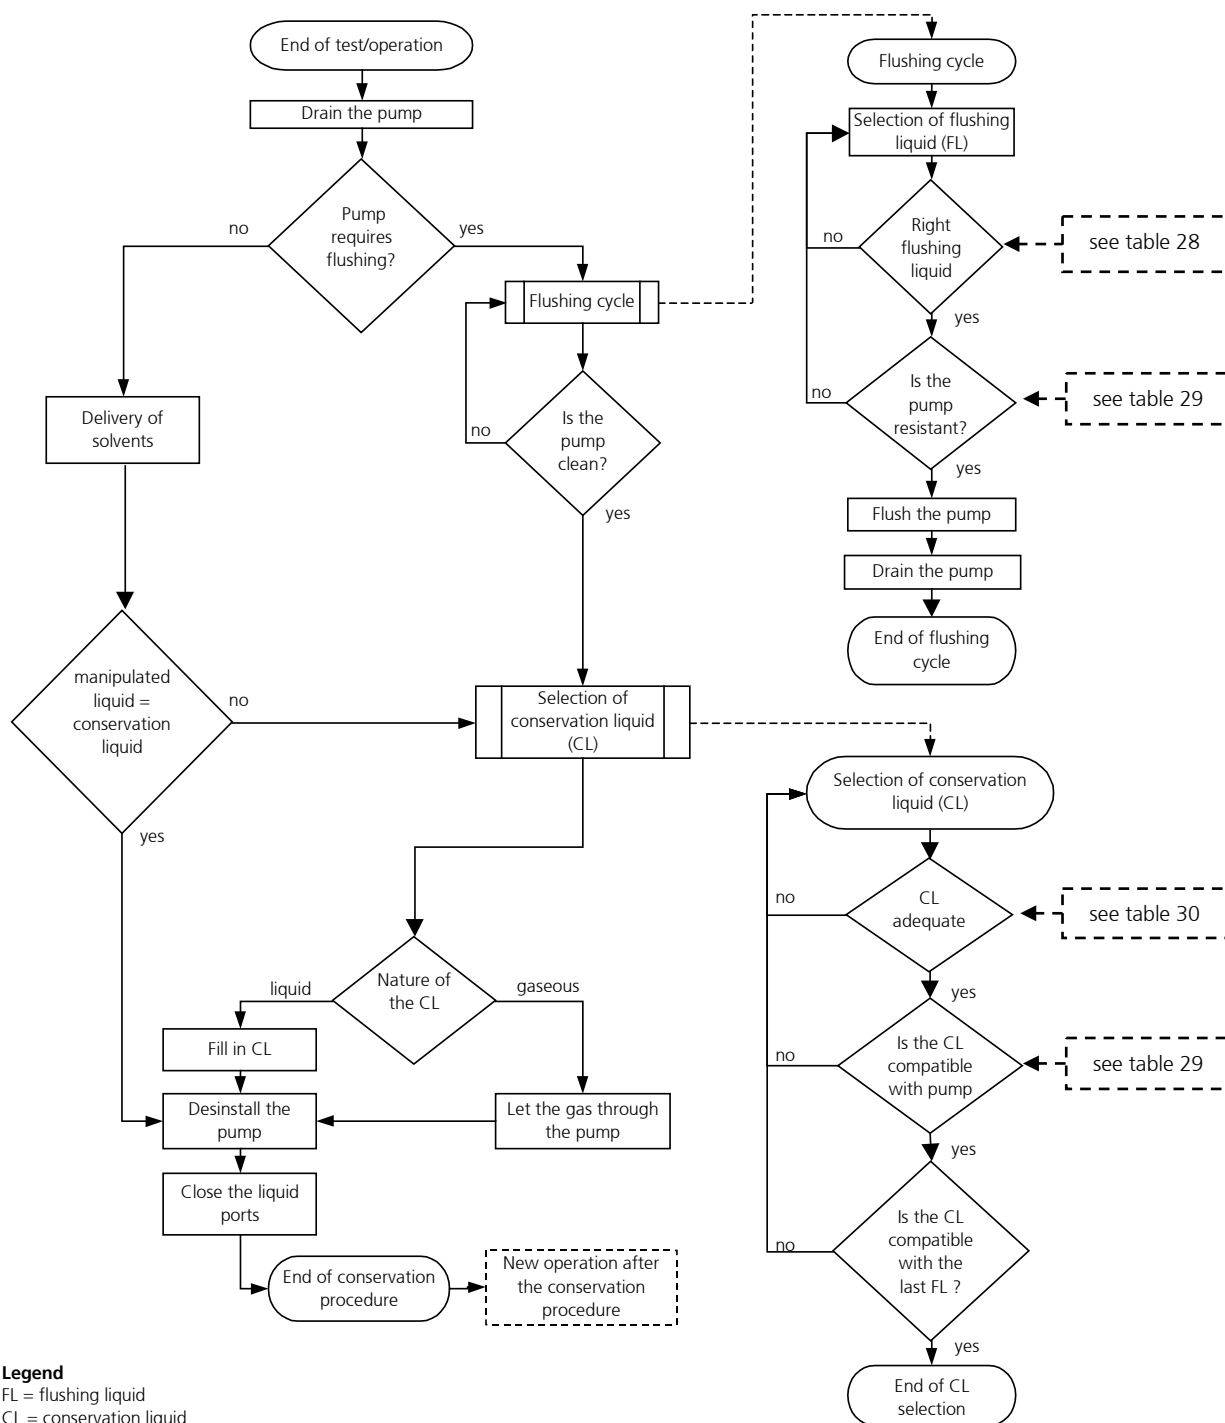

figure 28
*Remark:* This diagram is repeated as a part of the figure 28 (shutdown procedure of the micro annular gear pump).